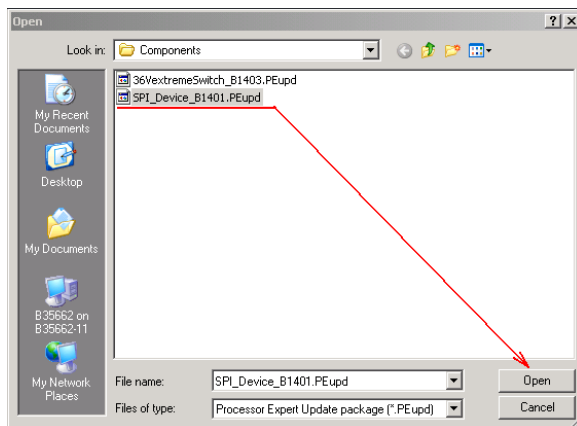

Figure 7. Example Project Folder Components Window
1. Launch CW 10.x and click 'Processor Expert ->Import Component(s)' in menu. In the pop-up window, locate Component file (.PEupd) in example project folder: 36V_eXtremeSwitch_PEx_SW\Components. Select SPI_Devicexxxx.PEupd file then click 'open' (see Figure 7).